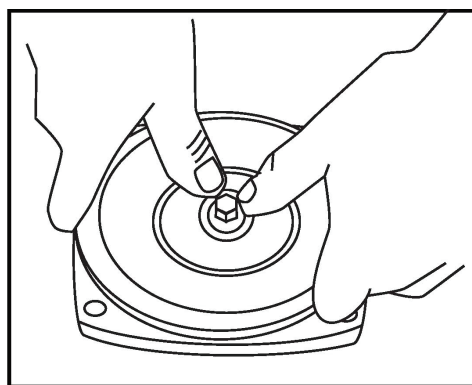

FIGURE 5b
8. With thumb pressure, press ceramic seal firmly into seal cavity. Polished face of ceramic seal is up. If seal does not seal properly, remove it and clean the cavity again. Seal should now seal properly (Fig. 5b).